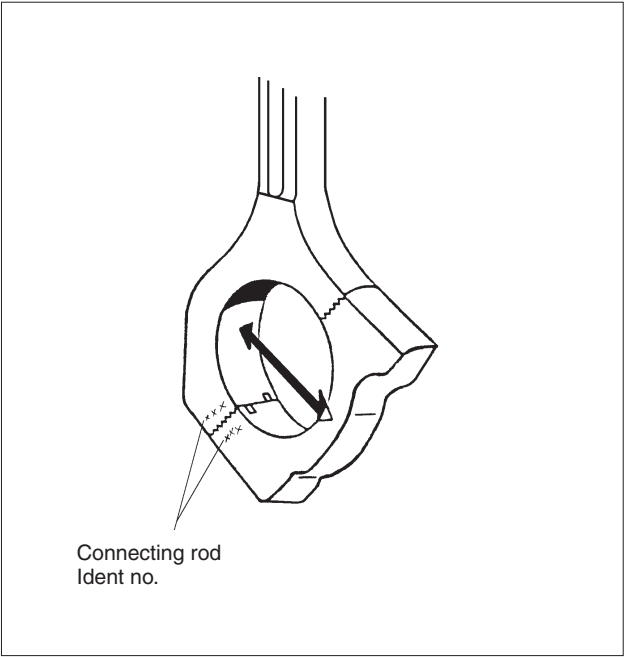

Fig. 3.
**Note !** The ident no. on the connecting rod and the bearing cap, **must** always be the same, see fig. 3.